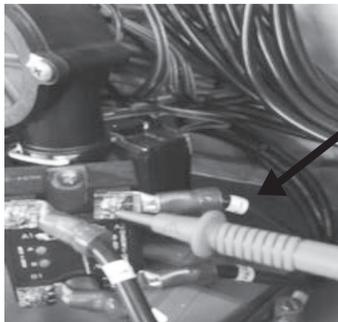

Fig 1
**Ohm out heating elements:** place #1 lead on 1 terminal on right side of SSR (FIG 1); place #2 lead (FIG 2) on the matching numbered red wire on outlet side of contactor.